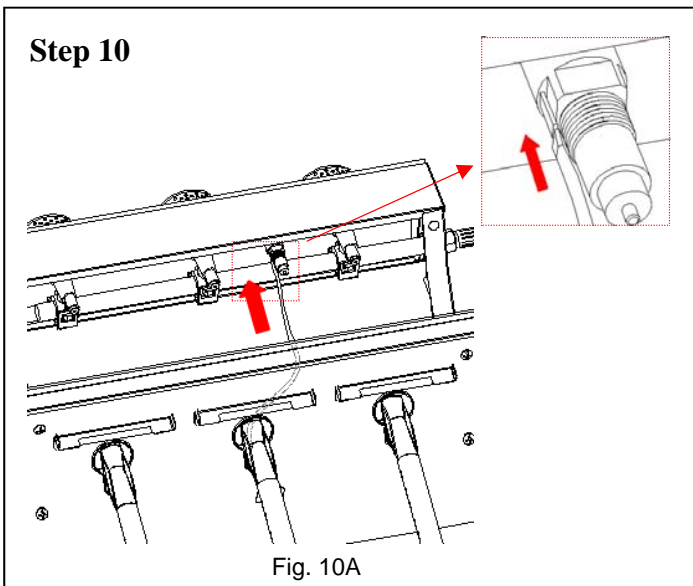

Fig. 10A
*Locate:* Control Panel Assembly, (4) M6x12 bolts
*Procedure:* Insert the Ignition Wire on the Middle Burner to the pin on the Piezo Igniter pre-assembled on the Control Panel Assembly as shown as Fig. 10A.